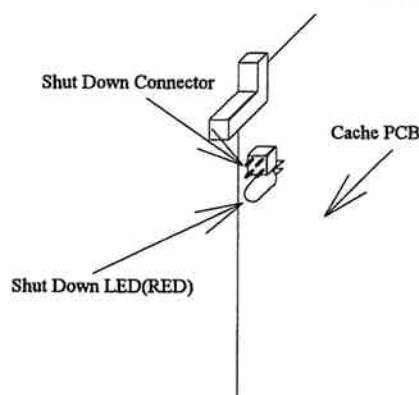

Fig. 3.4.1.3.2-11 Location of the Shut Down LED
- a. While referring to Fig. 3.4.1.3.2-11 and Table 3.4.1.3.2-9, check the Shut Down LED on the CPM PCB in the Logic Box. See "Connection of Shut Down Jumper (INST03-2600)" if the Shut Down LED is not on.